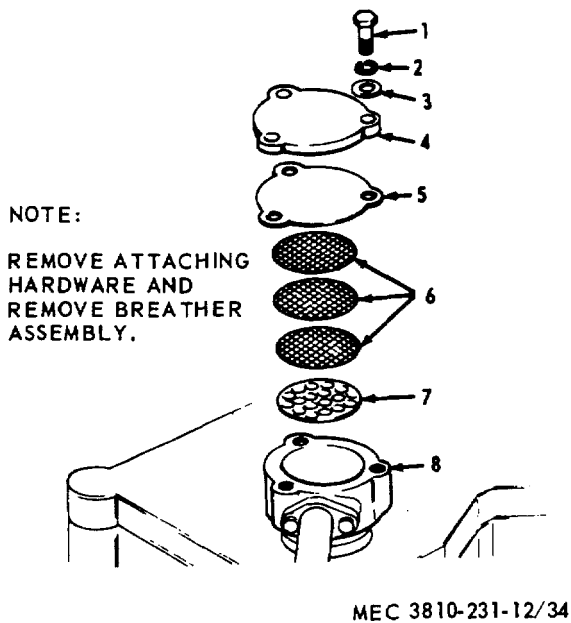

Figure 34. Crankcase breather assembly.
a. *Removal and disassembly.* Remove and disassemble breather as shown in figure 34.
- (1) Clean all parts in an approved cleaning solvent and dry thoroughly.
- (2) Clean vent tube, screens and baffle. Inspect for cracks, breaks, or other damage.
- (3) Repair or replace damaged parts as necessary.
c. *Reassembly and Installation.* Reassemble and install crankcase breather as shown in figure 34.